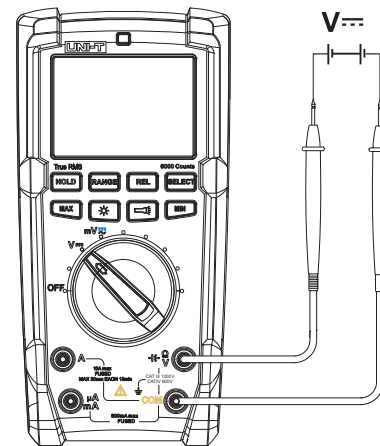

Figure 4
9.2 DC Voltage Measurement (See Figure 4)